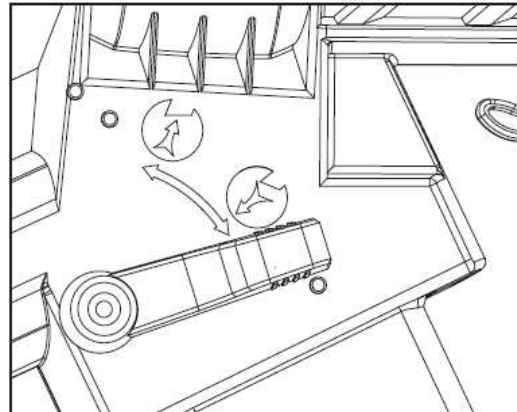

Fig. 8
3. Move the lever (6) to the proper position to use the product as a blower (Fig. 8).